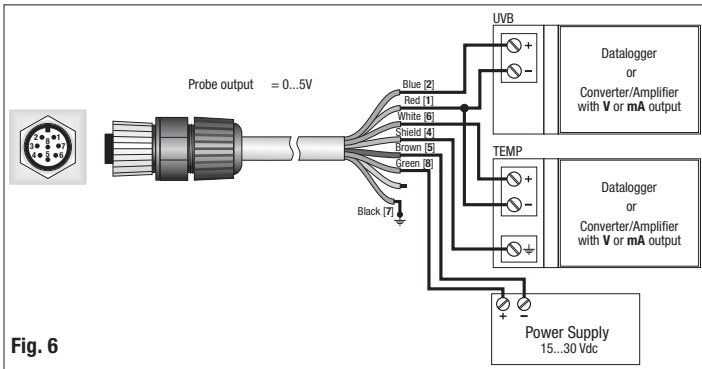

Fig. 6
N.B. The input load resistance of the data acquisition system must be greater than 10kΩ. The connection scheme is shown in figure 6.
The UV-resistant cable (supplied on request) has 5 wires plus the braid (screen); the colour code is shown in fig. 6.